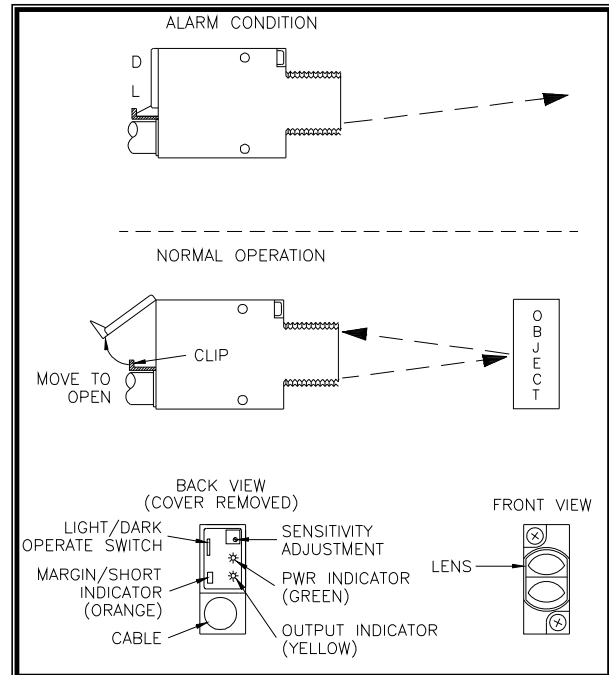

Figure 50 Low Label Detector
3. The rear cover window on the detector must be opened before any adjustments can be made. See Figure 50. Press the flexible retaining clip against the cable to open the window.